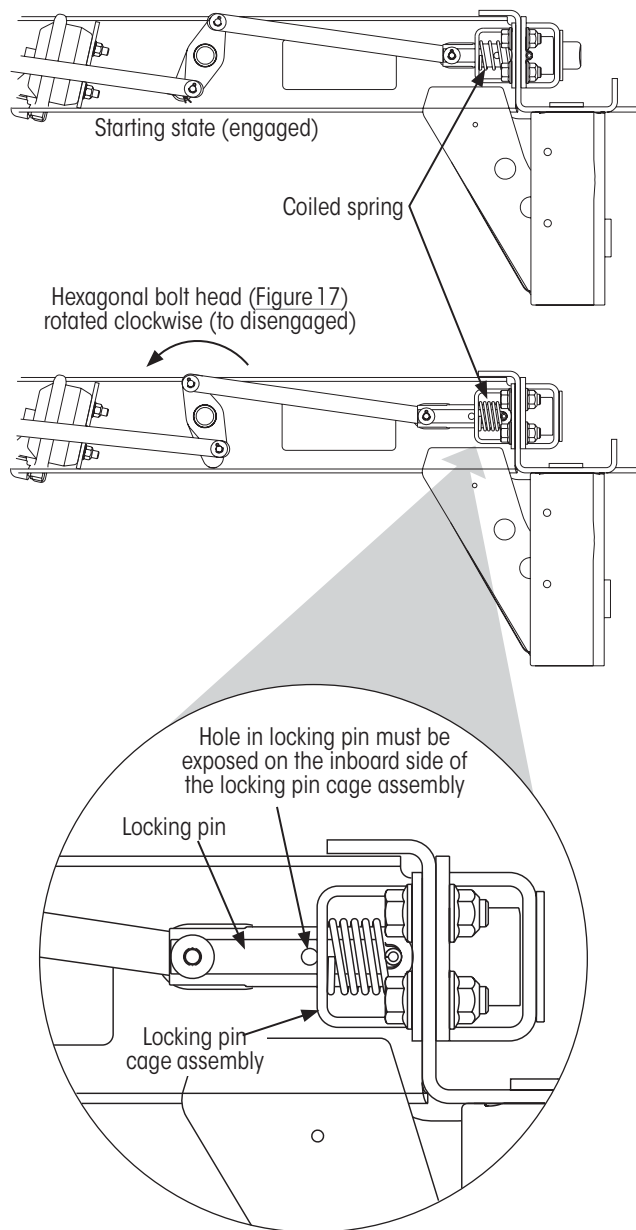

Figure 18: Manually operating the locking pins
Just as QUIK-DRAW uses an air actuator to retract locking pins, it uses coil springs to extend them. These coil springs (Figure 18) apply a constant outward force on the locking pins, causing them to stay fully extended and in position through the positioning holes in the web of the trailer I-beams. The coil springs force the locking pins to remain engaged, even if an air actuator malfunction occurs.
3. Using a 1 1/2 inch wrench on the hexagonal bolt head, **rotate and hold** the pipe weldment counterclockwise approximately 1/8 turn, or until the hole in a locking pin (Figure 18) is visible on the inboard side of the locking pin cage assembly. If the locking pins are free to move, it will require approximately 60 ft. lbs. (81 Nm) of torque to rotate the pipe weldment.
4. **Insert** a Phillips head screwdriver or 1/4 x 3 inch bolt in the exposed hole in one of the retracted locking pins (Figure 18). This will hold all of the locking pins in the retracted position because they are all interconnected by the locking pin linkages and pipe weldment.